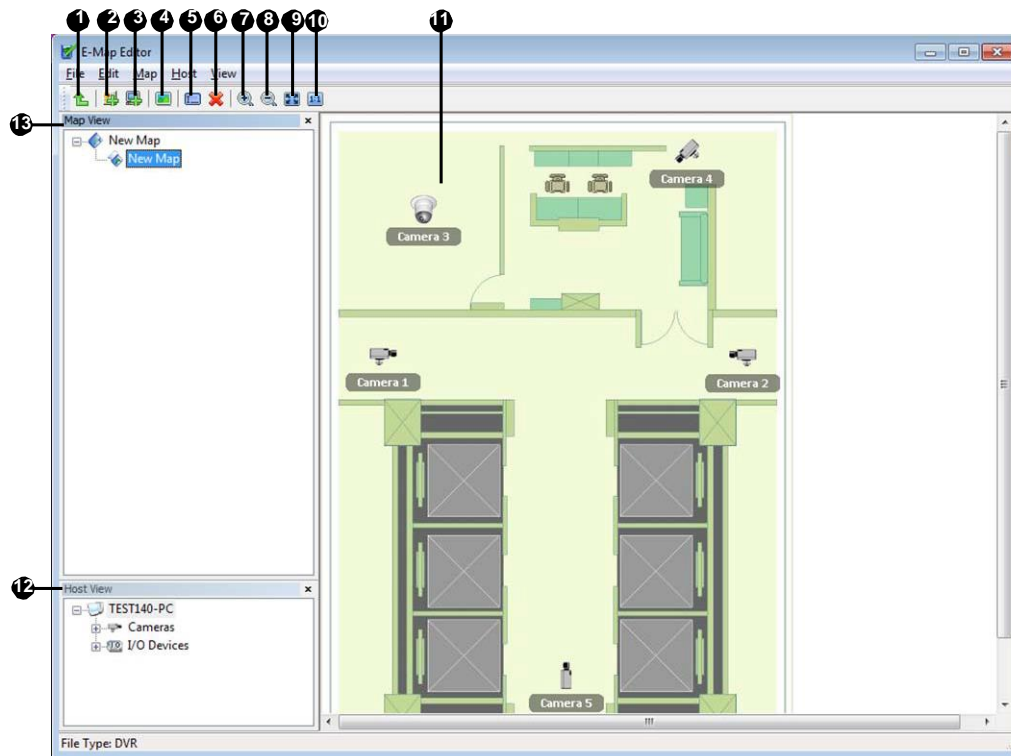

Figure 9-1 The E-Map Editor Window
1. Click the **Add Map** button (No.2, Figure 9-1) on the toolbar. A New Map file will be created in Map View and the Floor Plan window separately, as illustrated below.
2. Click the **New Map** file in Map View, and then click the **Load Map** button (No. 4, Figure 9-1) to import a graphic file. The file opens in the Floor Plan window (Figure 9-1).
1. Click the **Add Host** button (No. 3, Figure 9-1) on the toolbar, and select the type of host. A new host is added in Host View.